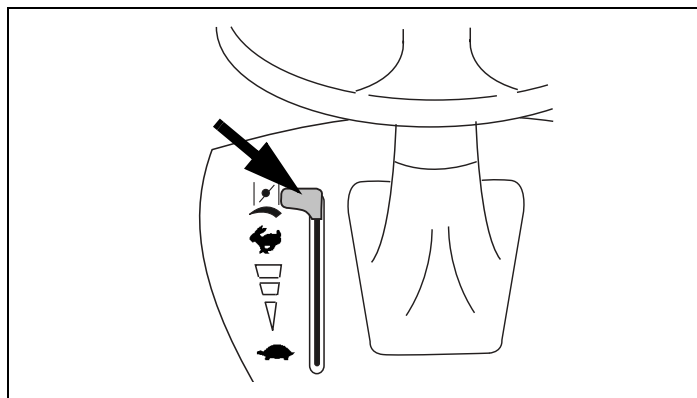

Figure 13. Combined Speed and Choke Control
2. Move combined control to "CHOKE" or "START" position, if present (see equipment manufacturer's instructions). See Figures 13 and 14.
If restarting a warm engine after a short shutdown, move combined control to "FAST" position instead of "CHOKE" or "START" position. See Figures 13 and 14.